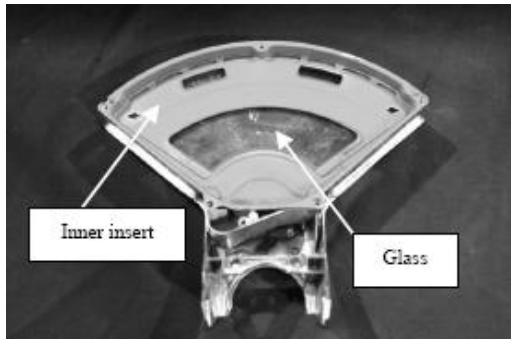

Figure 4
Step 5: Remove inner insert and glass. (Figure 4)